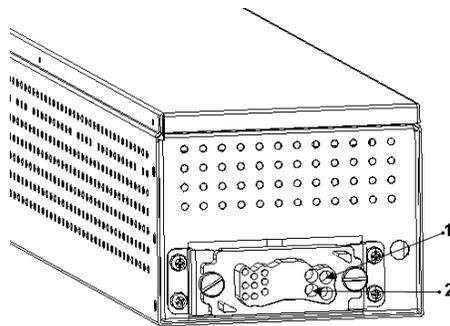

Fig. 2-1: Battery Box Back
- Voltage between points 1 and 2 ( Fig. 2-1) may exceed 150V DC, so they must not be touched and the cover shall be kept on when not installed